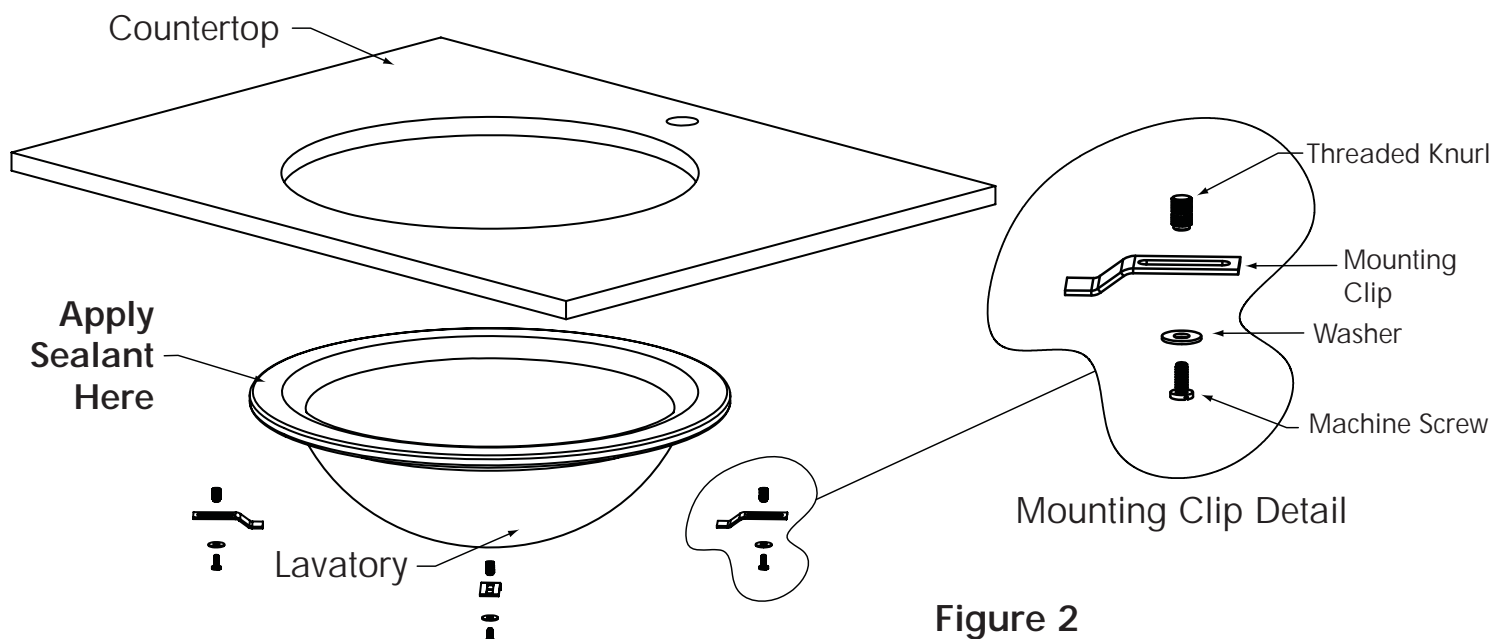

Figure 2
- Refer to Mounting Clips Detail (Figure 2). [Installation for solid surface countertops with a minimum thickness of 1" (25 mm). Installer must supply anchors for thinner countertops.]
- For solid surface, drill anchors hole  $\frac{3}{8}$ " diameter x  $\frac{1}{2}$ " deep. Apply small amount of epoxy (not provided) to closed end of **Threaded Knurl (C)**. Insert threaded knurl (threaded open end exposed).
- Attach **Undermount Clips (B)** to hold lavatory in place.